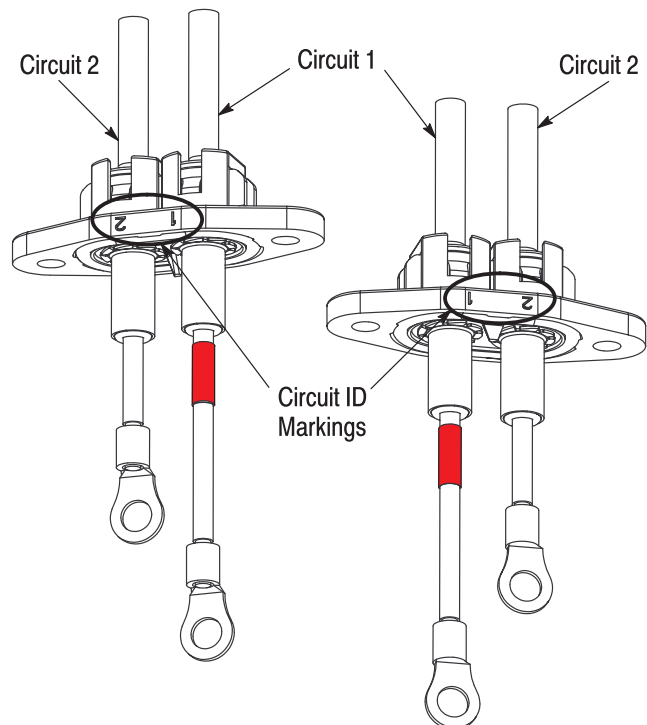

Figure 5
5. Make sure that the circuit ID markings on the APT housing match up with the specific cable circuit IDs, keeping in mind that the circuit IDs on the APT housing are marked on both sides as shown in Figure 5. Unless otherwise specified, cavity 1 is for the positive (+) circuit and cavity 2 is for the negative (–) circuit.